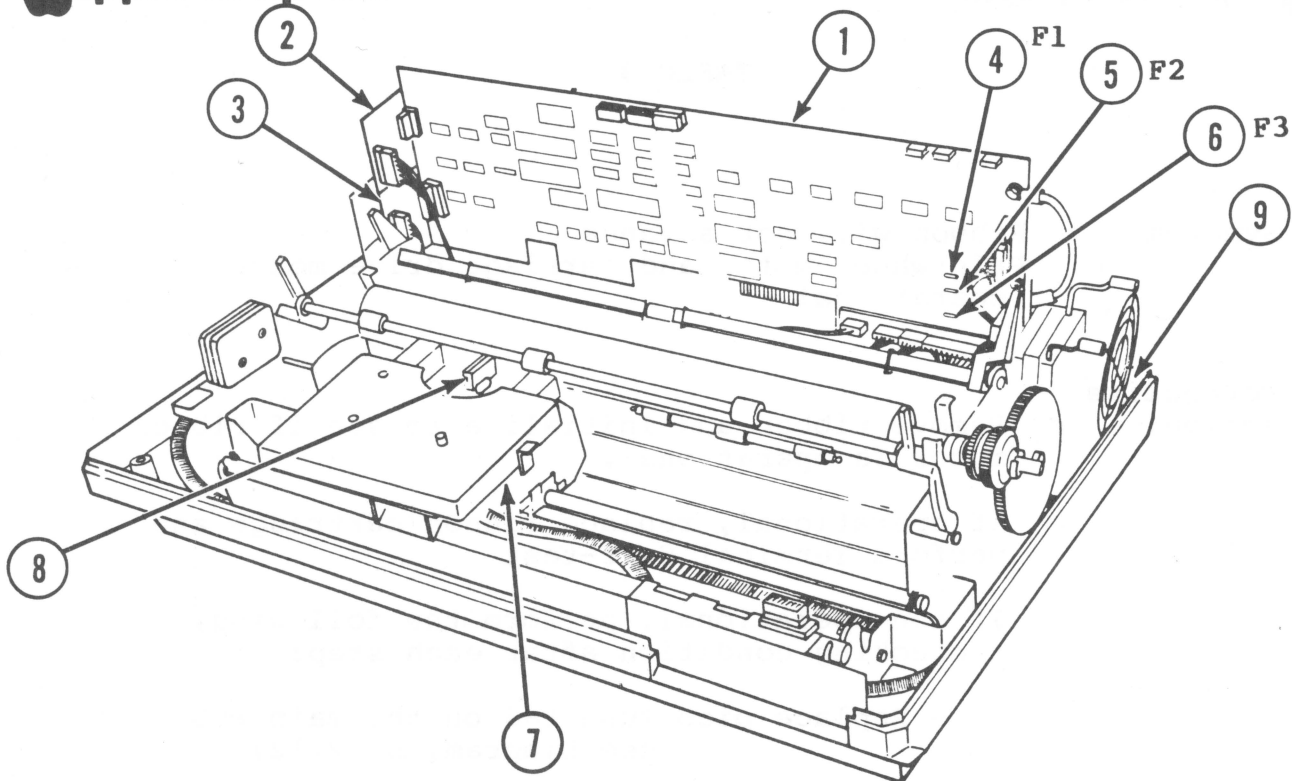

FIGURE 1
Main PCB Pico Fuses	- F1, 4 amp (Figure 1, #4) - F2, 2 amp (Figure 1, #5) - F3, 5 amp (Figure 1, #6)
Mechanical Assembly	Figure 1: everything except printed circuit boards and outer case
Carriage Assembly	Figure 1, #7
Print Hammer Assembly	Figure 1, #8
Main PCB	Figure 1, #1
Printwheel encoder PCB (replaced with Carriage Assembly)	Figure 1, #2
Carriage Motor encoder PCB (replaced with Carriage Motor)	Figure 1, #3
- \*4. Disconnect the ground wire from the upper right side of the PCB (see Figure 1, #3).
- \*6. There are two mounting holes midway between the top and bottom of the board. Lift the board halfway up and install it on the fasteners using these mid-point holes. (See Figure 1, #1.) If you have trouble raising the PCB, try to free it by pushing with your finger through the RS232 slot on the lower left of the rear panel.
- \*7. Unplug the two encoder PCBs from the extreme left side of the main PCB. (See Figure 1, #2.)
- \*8. Number the cable connectors on the right side of the PCB with the felt pen, according to the P-numbers on Figure 1, so that you will be able to reinstall them correctly.